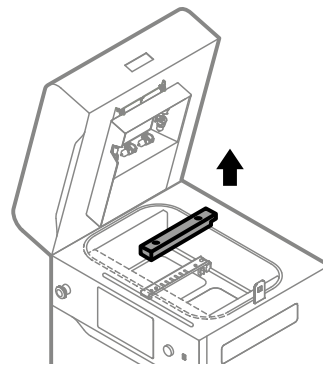

Fig. 12.12 Remove the black Recoater cover.
9. Gently remove the black cover from Recoater (fig. 12.12).